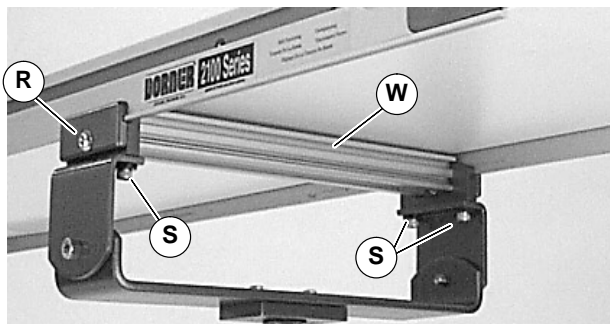

Figure 12
3. Install assembly (W of Figure 12) on bottom of conveyor. Align assembly perpendicular to conveyor frame. Tighten bracket screws (R): Tighten M8 screws to 9 Nm.